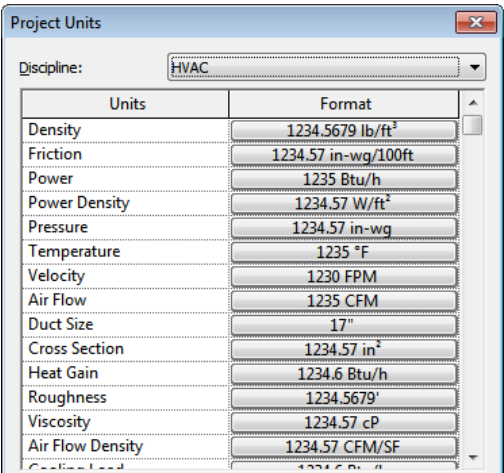

Figure 2-29 Partial view of the table in the **Project Units** dialog box displaying various units required in the HVAC workflow
2. Project Units: Refer to Figure 2-29
- c. Specify the Project Units, refer to Figure 2-29.
2. In the **Project Units** dialog box, select the **HVAC** option from the **Discipline** drop-down list; the various units required in the HVAC workflow are displayed in a table located below the **Discipline** drop-down list, refer to Figure 2-29.